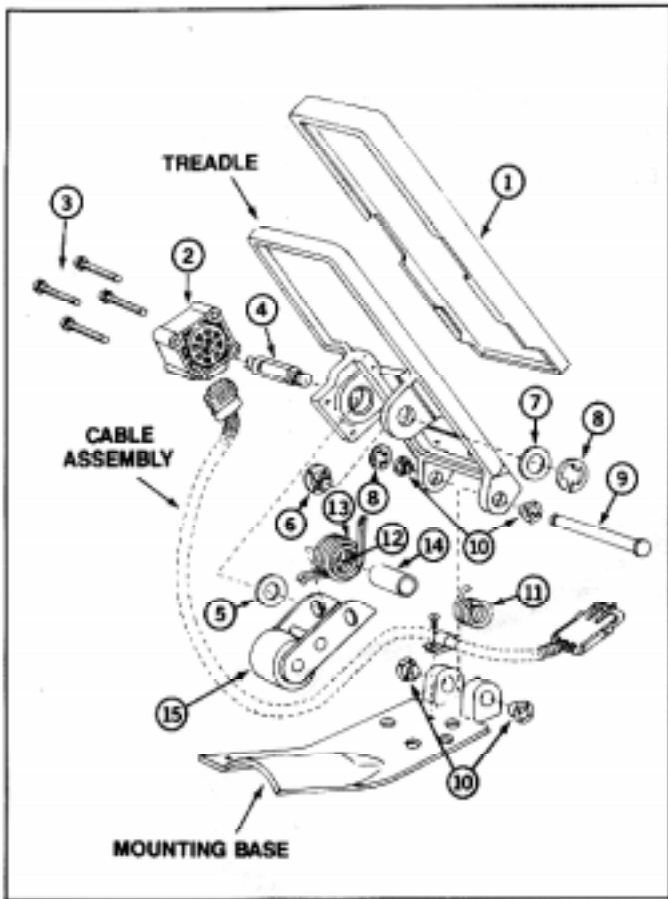

FIGURE 2 - Exploded Line Drawing
Refer to Figure 2 throughout the assembly procedure.
6. Place the spring support (14) inside the caged spring assembly. Then insert the springs into the roller assembly (15). The curved ends of the springs fit over the small bar directly behind the roller.
7. Install the nylon bearing (6) in the treadle.
8. In order to install the lever shaft (4), the roller assembly, with its springs and spring support, and the washers (5 & 7) must be aligned. This can be done by resting the ET -2 on its side, with the smaller ear of the treadle facing up. Insert the washers as shown in Figure 2. [Washer (5) has the larger inside diameter (.520").] And while holding the roller assembly in place, push the lever shaft through the treadle ears.
9. With the ET-2 on its side, as mentioned above, the lever shaft should protrude from the treadle with its snap ring groove visible. Secure the lever shaft with its snap ring (8).
10. Turn the ET-2 upright. Place the potentiometer (2) in the position shown in Figure 2, with its connector facing the rear of ET-2. Secure the potentiometer with its screws (3). Torque to 20 inch pounds (± 5).
11. Install the treadle cover (1) and cable assembly as shown in Figure 2. If the inner and outer springs were compressed and caged with a wire, clip the wire from the spring assembly so that the straight end of the springs rest against the underside of the treadle.